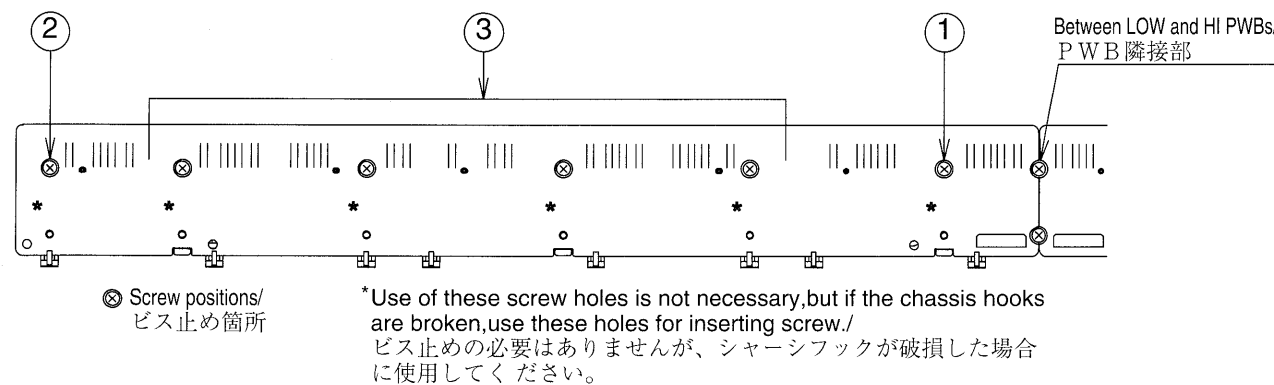

Fig.5
3) Then, using the screws, fasten the LOW and HI PCBs to the chassis from the center of the keyboard, that is, from the LOW PCB as shown in fig.5. While you are screwing down the PCB, it may float from the chassis. To avoid this, after screwing in the PCB at the center of the keyboard, screw down opposite end, before screwing in other areas in the middle of the PCB. (See fig.5) In addition, the PCBs may be warped by soldering, etc. It is recommended that each PCB be fastened screws while holding down the middle of the PCB lightly. Finally, screw down the adjacent area between the LOW and HI PCBs.
3) ビスは、PWB LOW、HIともに鍵盤中央部1より2、3の順に取り付けてください (Fig.5参照)。基板がハンダ付け等によってソリを生じていることがあるため、中央部を軽く押さえながらビス止めするとよいでしょう。最後にPWB隣接部をビス止めます。